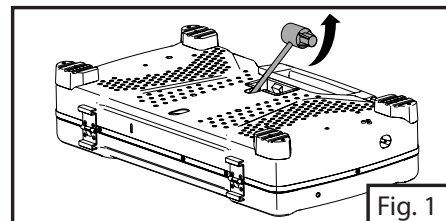

Fig. 1
2. Turn over the stove and place on a flat, soft surface. Pull the large head of the regulator to remove. (Fig. 1)